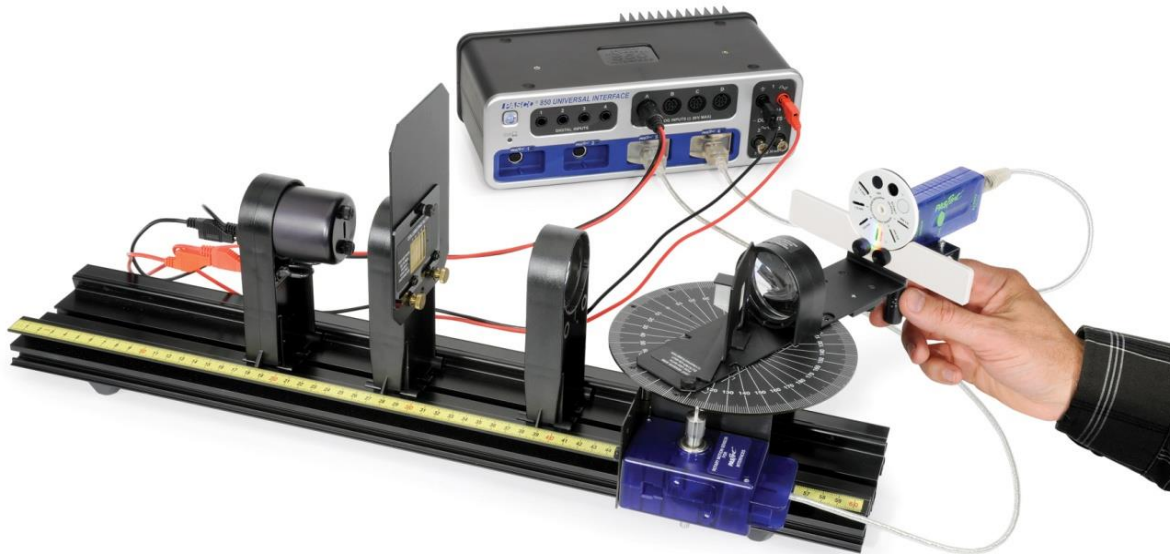

Figure 1: Complete Setup
1. Set up the Prism Spectrophotometer as shown in Figure 1 except place the Blackbody Light Source close to the left end of the track and the Collimating Slit closer to it than is shown in the picture to maximize the intensity. Detailed instructions for mounting the Rotary Motion Sensor and the Degree Plate and Light Sensor Arm to the spectroscopy table may be found in Appendix 3.
2. Attach the Broad Spectrum Light Sensor to the Light Sensor Arm using the $\frac{1}{2}$ inch bolt ($\frac{1}{4} \times 20$) with a large black plastic head. Attach the 2 inch black rod to the bottom of the Light Sensor Arm using one of the vacant holes. This makes a convenient handle for sweeping through the spectrum (see fig. 1 above).
5. Plug the Voltage Sensor into the Analog A input on the 850 (see Figure 1). Attach the red lead to the red banana lead on the Blackbody Light Source. Attach the black lead to the black banana on the Blackbody Light Source. **Do Not** attach the leads to the output jacks on the 850. The current is large enough that there is a voltage drop along the wires connecting the 850 output to the Blackbody Light Source and we want to measure the voltage at the light source. Set the Voltage Sensor sample rate to 20 Hz.